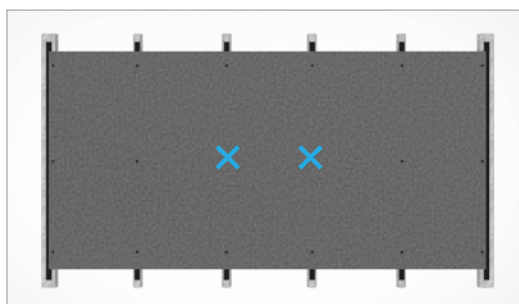

Figure 17.
- If the panel is installed horizontally or runs across two intermediate top hats, the board must have two fixed points as close to the centre of the panel as possible and must be aligned horizontally. (see Figure 17)